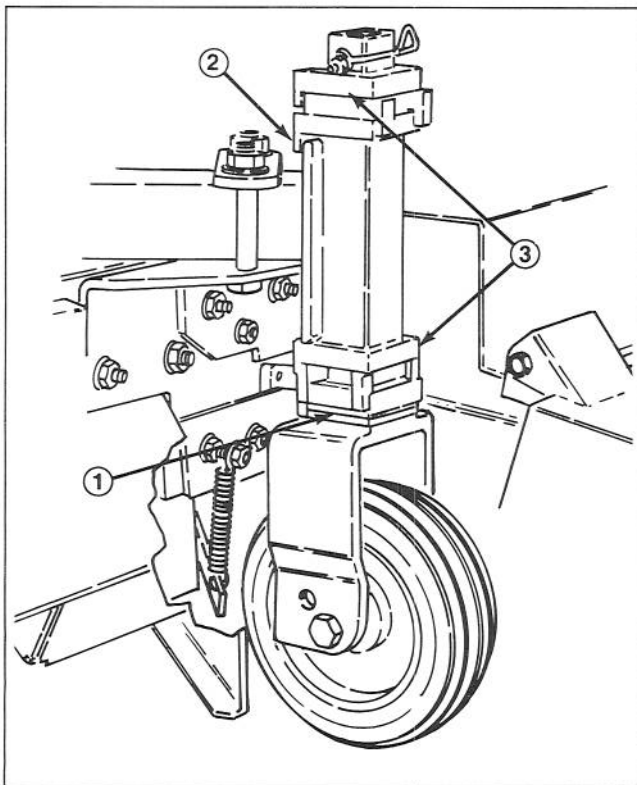
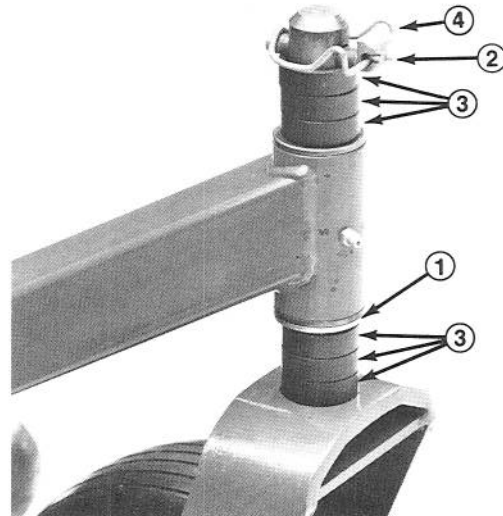

Figure 1
Figure 2
2. Slide spacers off the caster fork shafts. Leave the two full square washers (Fig. 1) on the rear caster fork shafts.
3. Slide spacers onto caster shafts to get desired height-of-cut: refer to Height-of-Cut Chart, page 13. With thrust washer on top of spacer push round caster shafts (Fig. 2) through front caster arm. Push square caster shafts (Fig. 1) through rear caster arm. Install remaining spacers onto caster shafts and install lynch pins to secure assembly. Always retain the same number of spacers on each caster when adjusting height-of-cut.
NOTE: On front caster shafts, insert lynch pin in front side of shaft with caster wheels positioned as if deck were traveling in forward direction (Fig. 2). Inserted from the front the wire loop is less likely to be forced up during operation and the pin lost.
IMPORTANT: Thrust washer — not the spacers — must contact bottom of front carrier frame tube (Fig 2).